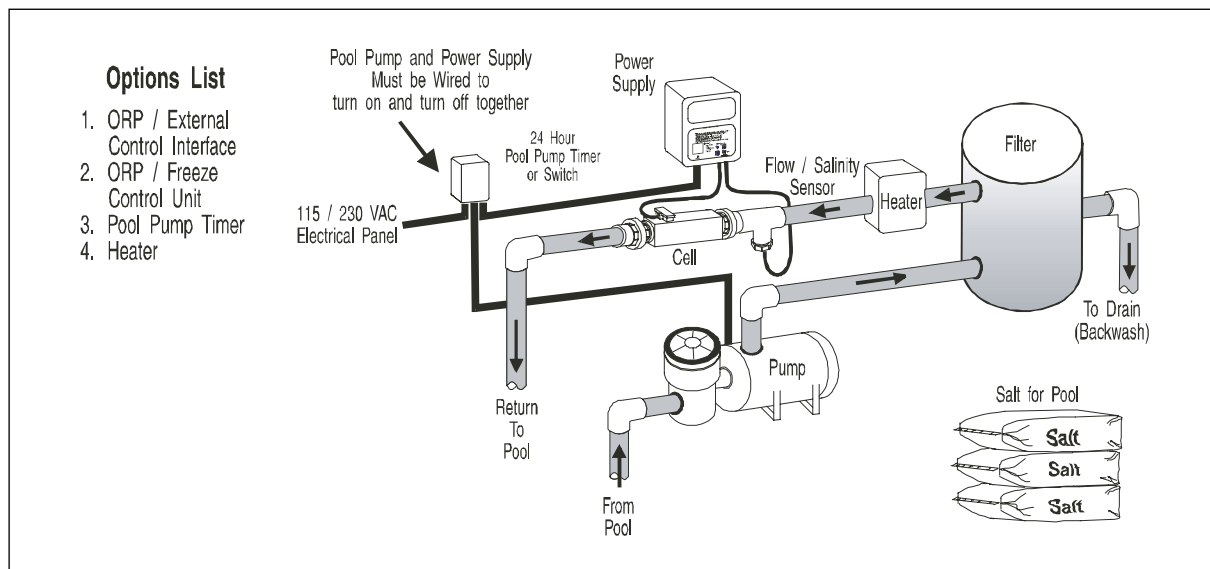
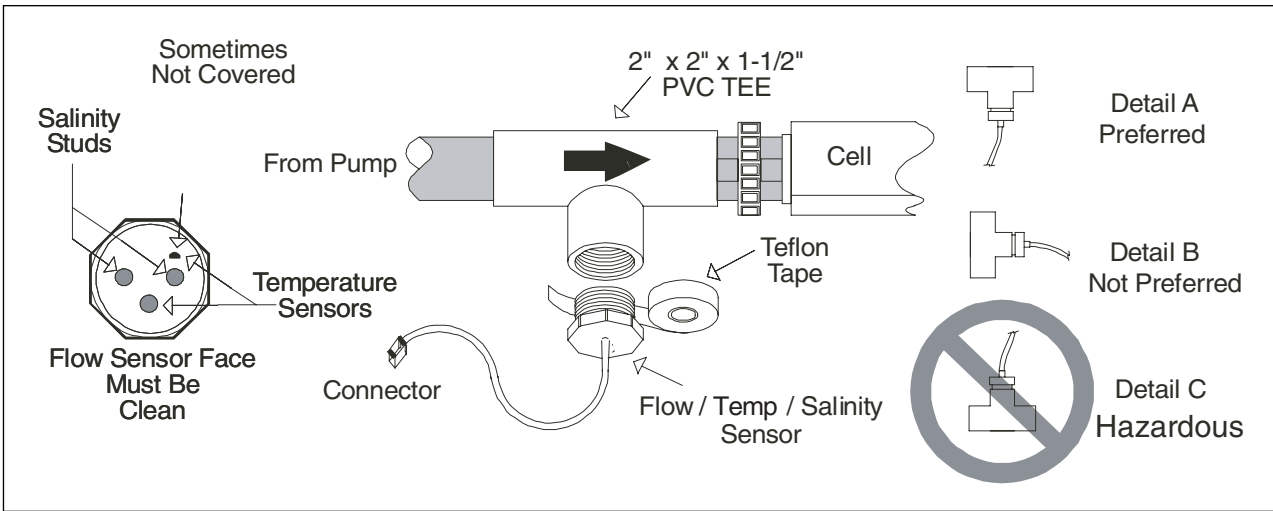

Figure 1. Typical Chlorinator Installation With Options
Figure 4. Flow/Temp/Salinity Sensor
The water Flow/Temp/Salinity Sensor must be located in the same piping as the electrolytic cell, without any valves or diverters between them. (See page 5 figure 1).
The Flow/Temp/Salinity Sensor must be mounted as in page 10 figure 4.
- Mount as on page 10 figure 4 Detail A. This will result in the most reliable operation.
- (1) in the same line as the Electrolytic Cell.
- (2) with no valves or diverters between the Flow/Temp/Salinity Sensor and Cell.
- (3) preferably between the Pool Pump and the Cell.
- Do not mount as Flow/Temp/Salinity Sensor as Detail C in Figure 4. This mounting position can be HAZARDOUS.
3. Position the Flow/Temp/Salinity Sensor Tee and Cell in the recommended position (See page 10 figure 4 Detail A) and (page 5 figure 1).